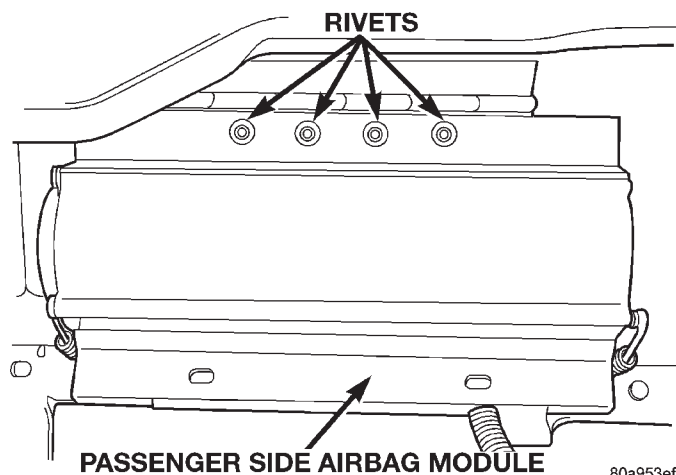

Fig. 6 Passenger Side Airbag Module Rivets
(4) Use a center punch to drive out the mandrels from the four rivets that secure the airbag module to the upper airbag door flange and bracket on the instrument panel top cover (Fig. 6).